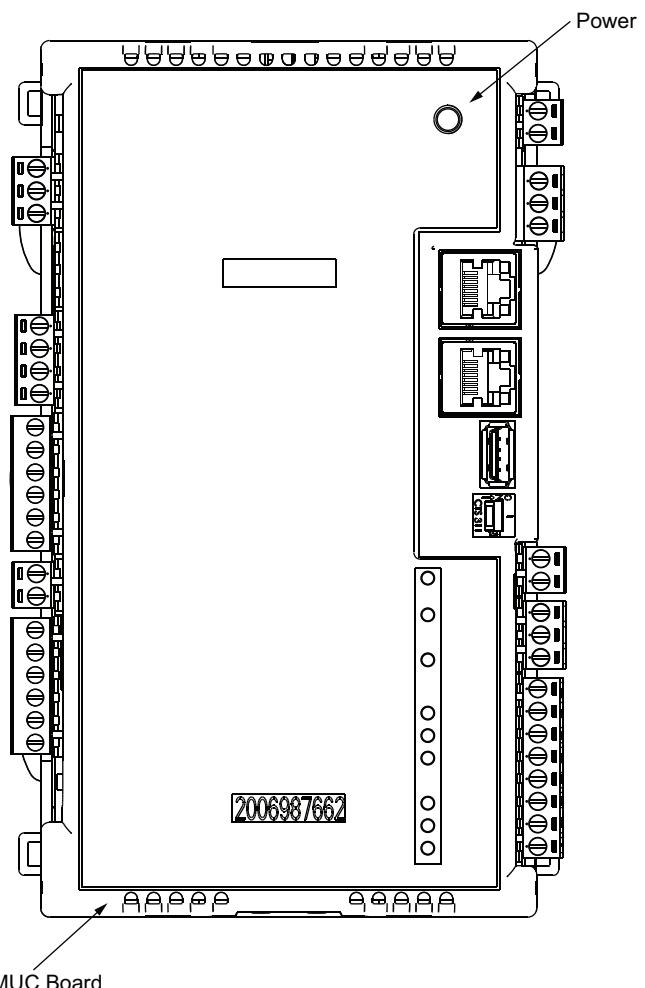

Fig. 6 — LED Locations
3. Restore power to the power supply and verify that the Power LED is on (in the controller module). See Fig. 6 for Power LED location.